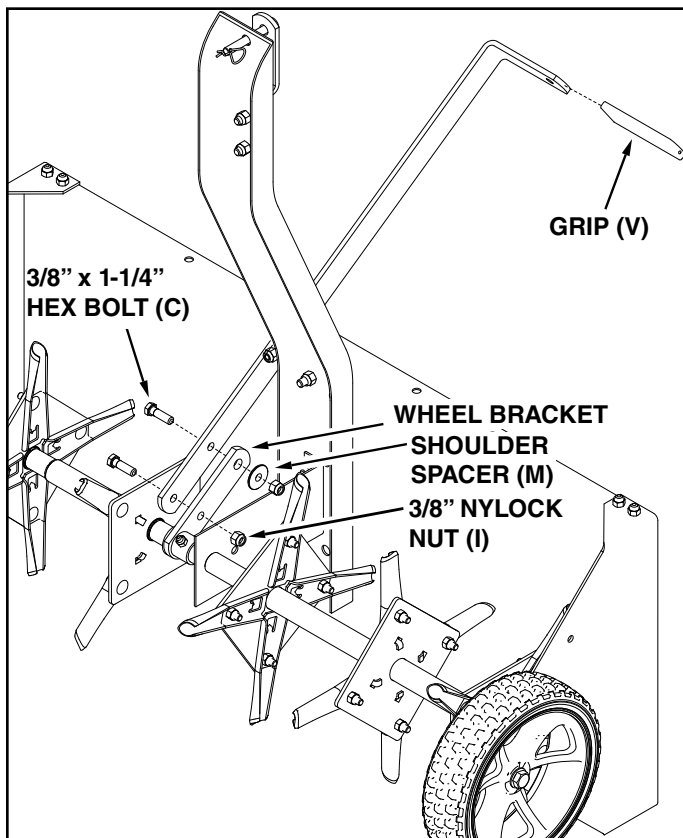

FIGURE 12
16. Turn the lift handle as shown in figure 12 and attach it to the side of the wheel bracket that is indicated. Use a shoulder spacer (M), two 3/8" x 1-1/4" hex bolts (C) and two 3/8" nylock nuts (I) to attach the wheel bracket to the lift lever. Tighten the bolts and nuts. See figure 12.
17. Push the grip (V) onto the lift handle. See figure 12.